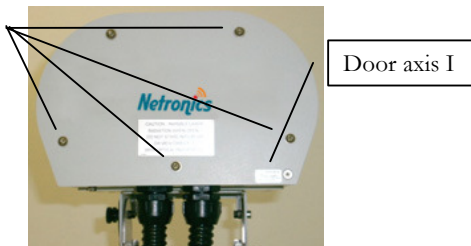

Fig. 6.1: Screws H and door axis
- 2 – Undo the five screws H -- see Figure 6.1. Holding the Rear Door, Pull the door, turn it clockwise ¼ of a turn around the axis (I), so that a screw will be opposite hole "O". Fixe the door on the hole "O" with the screw.